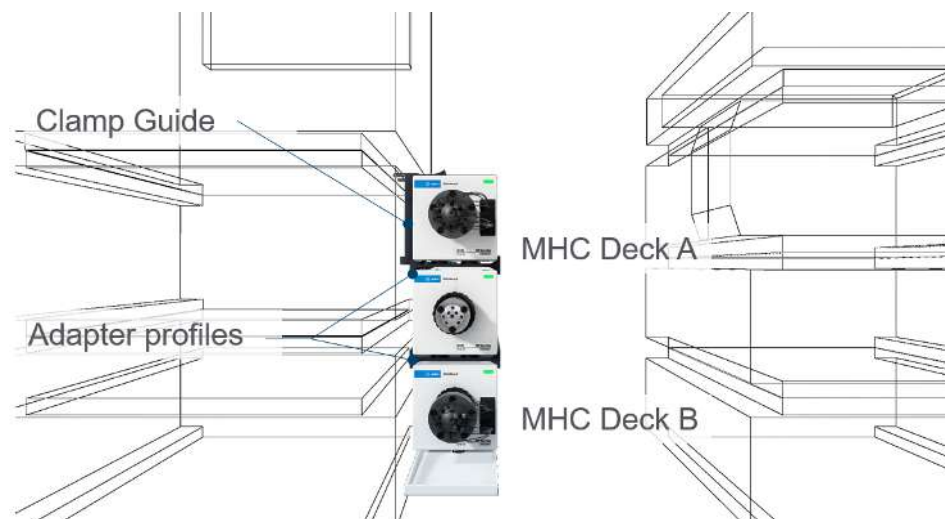

Figure 44: Schematic of the installation and attachments of the Bio 2D-LC valve and optionally the MHC decks
- 4 Attach the adapter-profile on each of the other external valve drives and mount them according to the positions shown in Figure 44 on page 94.